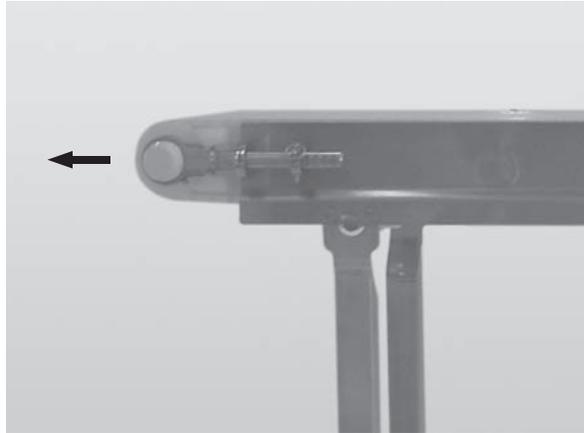

Figure 64
3. Continue extending the tension end until the belt is sufficiently tight (**Figure 64**).